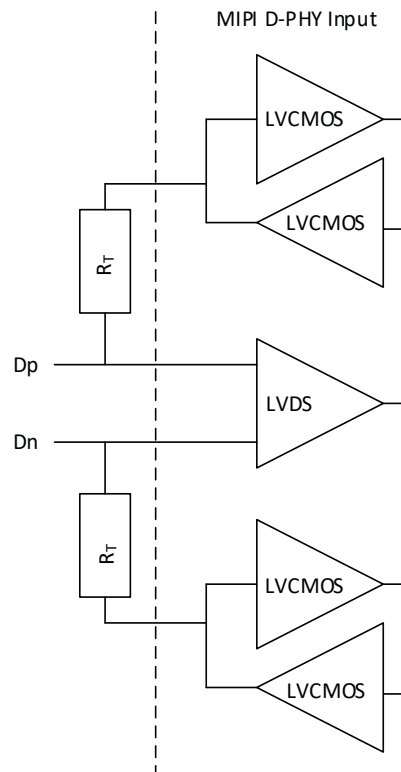
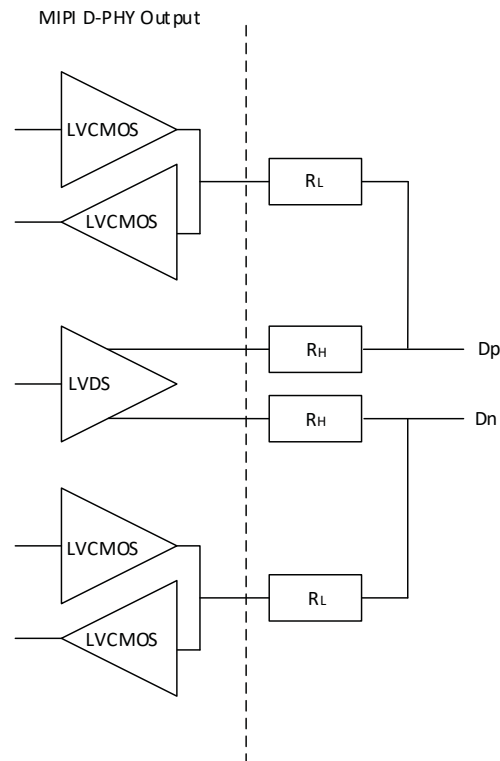

Figure 3.4. MIPI D-PHY Input Using External Resistors
Figure 3.5. MIPI D-PHY Output Using External Resistors
Mach-NX devices can support MIPI D-PHY unidirectional High Speed (HS) and bidirectional Low Power (LP) inputs and outputs via emulation. In conjunction with external resistors, High Speed I/O use the LVDS25E buffer and Low Power I/O use the LVCMOS buffers. The scheme shown in Figure 3.4 is one possible solution for MIPI D-PHY Receiver implementation. The scheme shown in Figure 3.5 is one possible solution for MIPI D-PHY Transmitter implementation.